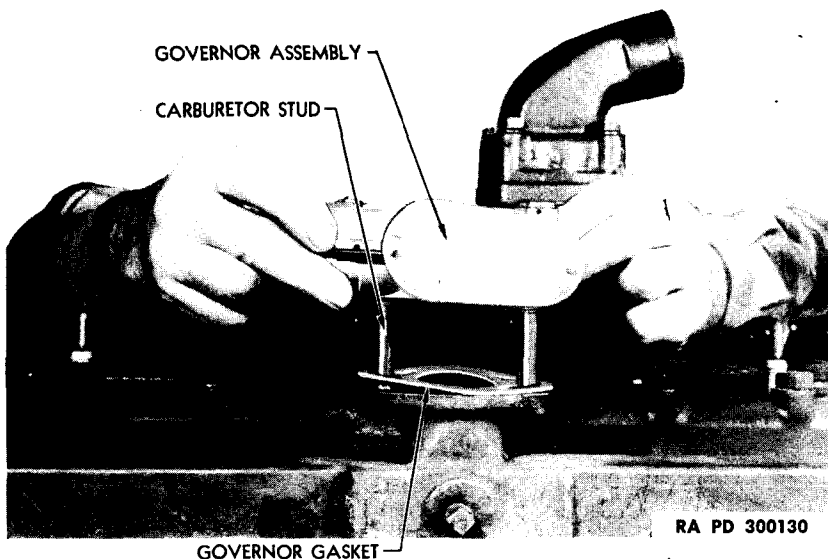

Figure 36—Removing Governor
a. **Description.** A velocity-type governor (fig. 36) is mounted between carburetor and intake manifold. The governor is entirely automatic and protects engine by limiting the speed.